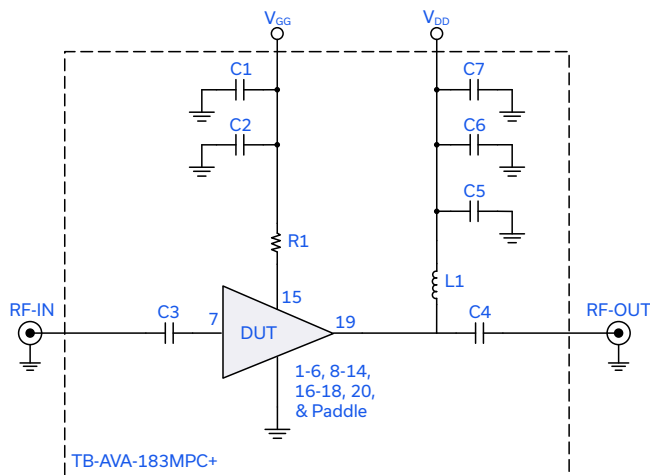

Figure 2. DUT soldered on Mini-Circuits Evaluation Board: TB-AVA-183MPC+
1. Tested in Mini-Circuits Characterization Test/Evaluation Board TB-AVA-183MPC+. See Figure 2. De-embedded to the device reference plane.